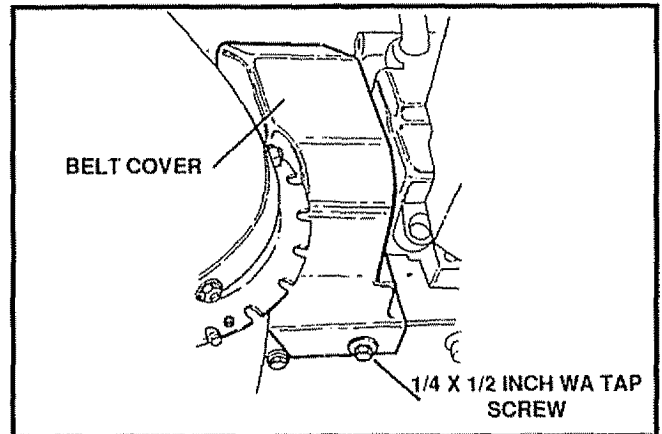

FIG. 28
- Remove the belt cover (See Fig. 28 on page 20).
- Remove the belt cover (See Fig. 28)
- Remove the belt cover (See Fig. 28 on page 20)